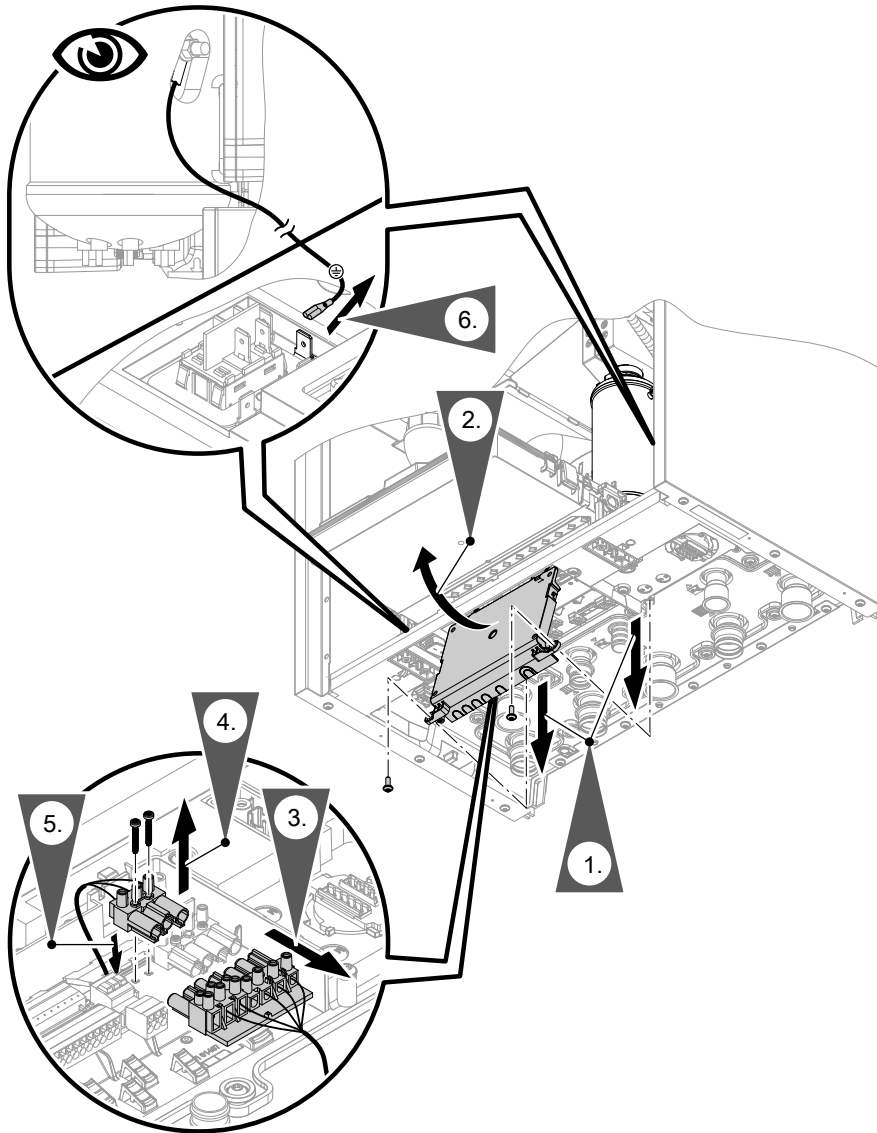

Fig. 89
- Power cable plug: See chapter "Instantaneous heating water heater power supply" and Fig. 89.